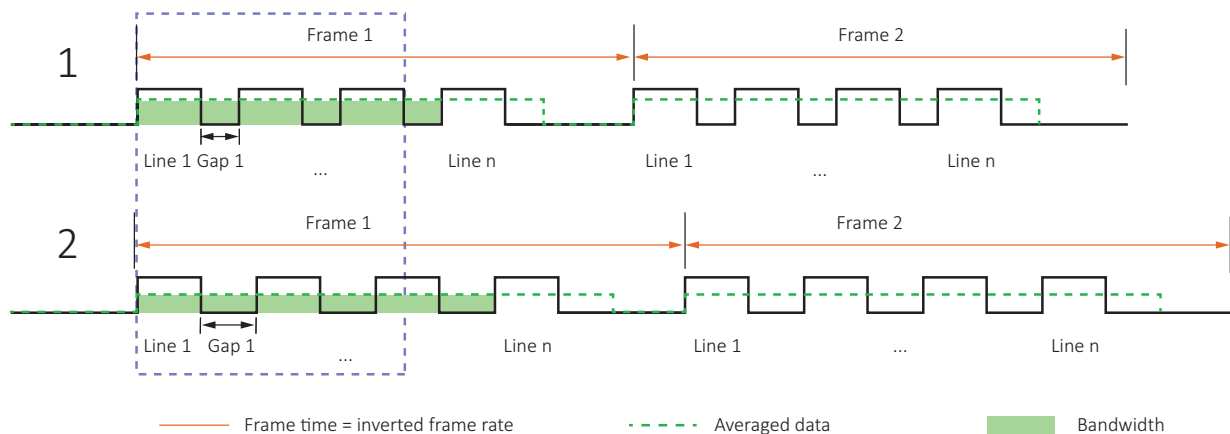

Figure 76: Sensor data output and camera data output
Figure 76 shows the bandwidth for a higher (1) and a lower (2) value for `DeviceLinkThroughputLimit` with Alvim G1.
- When high-resolution Alvim G1 cameras are operated at higher frame rates, corrupted frames can occur. This is shown schematically in Figure 76.